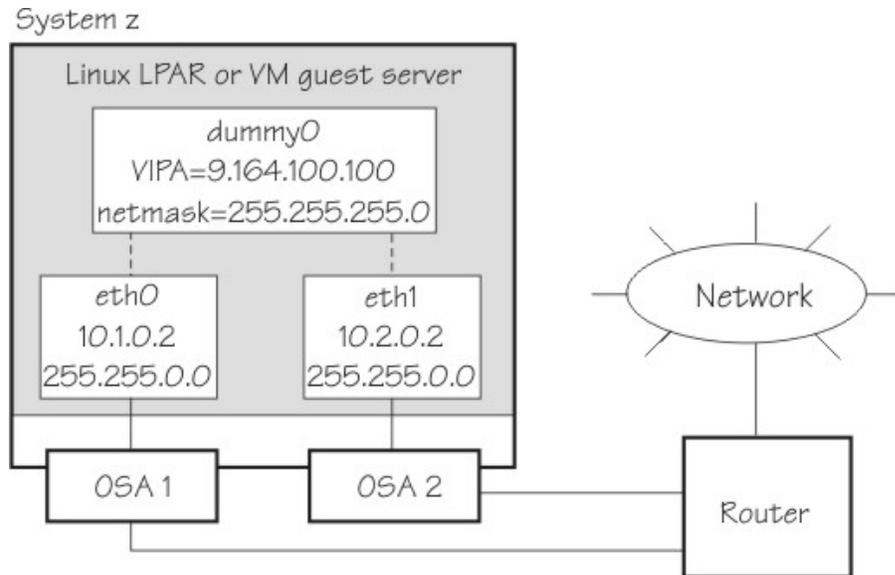

Figure 41. Example of using Virtual IP Address (VIPA)
- Static routing (shown in the example of Figure 41 on page 248).
Figure 41 shows the network adapter configuration that is used in the example.